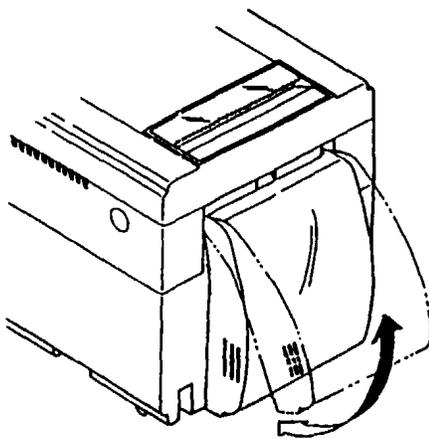

Fig. 9
- 1) Setting and removing the paper cover and the stacker as shown i Fig.9, 10.